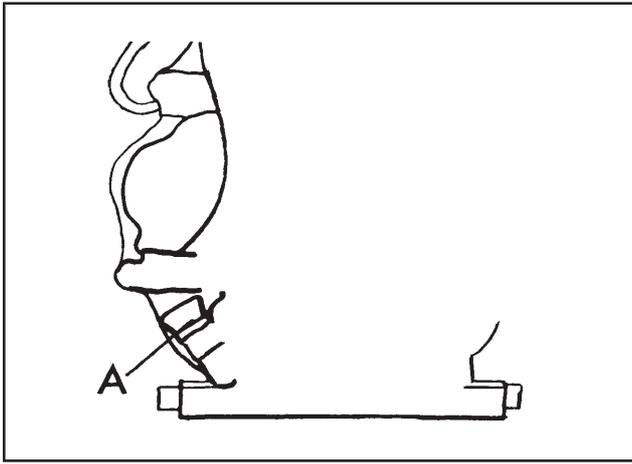

Fig.22
**PRÜFEN SIE DEN ÖLSTAND Abb.22**